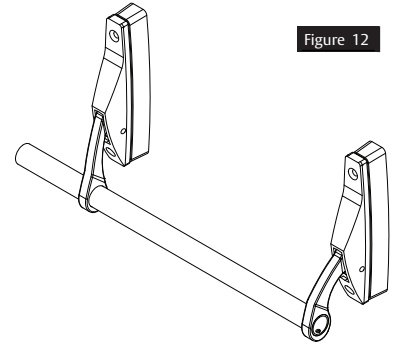

Figure 12
1. Slide bar through active and inactive case with 3/16" hole towards active case. Secure with 10-24 x 3/4" cap screw. (Figure 12)